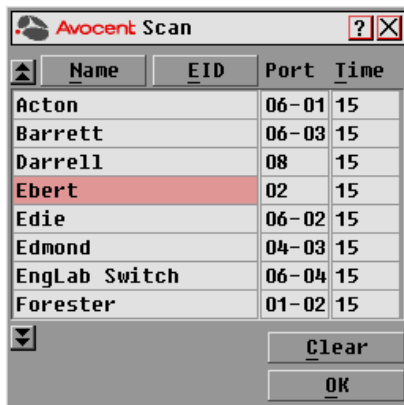

Figure 3.2: OSCAR Interface Scan Dialog Box
2. Click *Setup - Scan* to open the Scan dialog box shown in Figure 3.2.